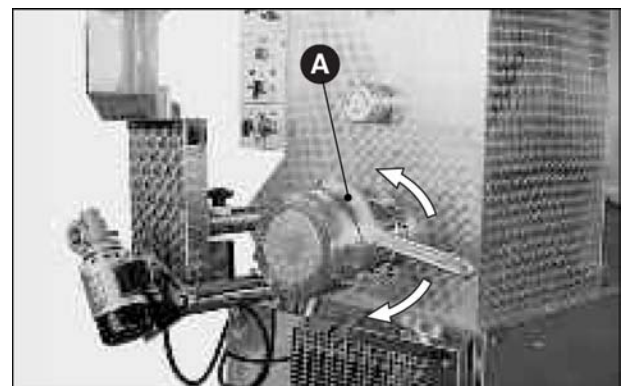

Fig. 30
- Metal ring, drawplate and filter: unscrew the metal ring with the appropriate wrench (Fig.30 A) being careful not to let any pieces fall, since the metal ring is moved from its place, the product and parts still weigh a few kilos and can easily slip from your hands, causing damage both to people or to the pieces themselves.